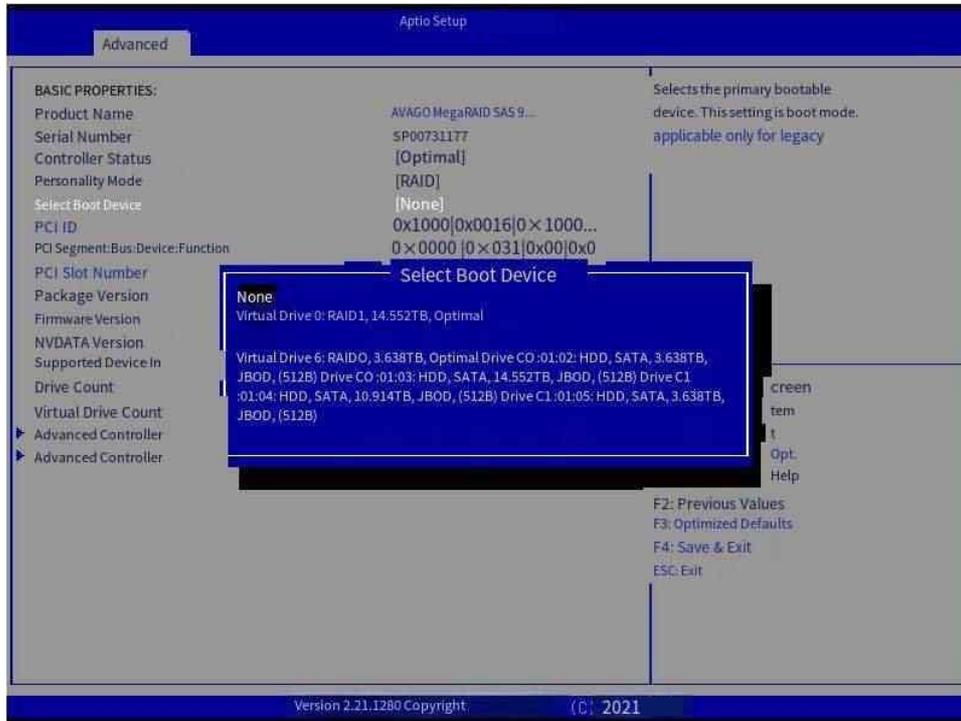

Figure 7-54 Select Boot Device
Step 3: Press Enter and select the desired raid or JBOD drive as the Boot Device in the pop-up window (Figure 7-54).